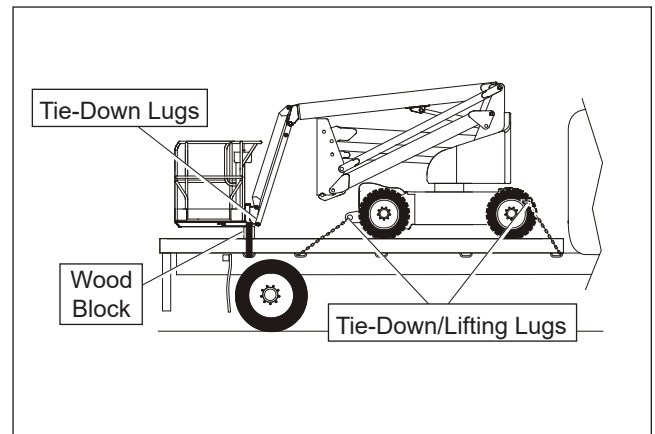

Figure 9.5 – Platform
4. Place a large wood block under the platform support braces (refer to Figure 9.5). Lower the platform so it rests on the wood block.